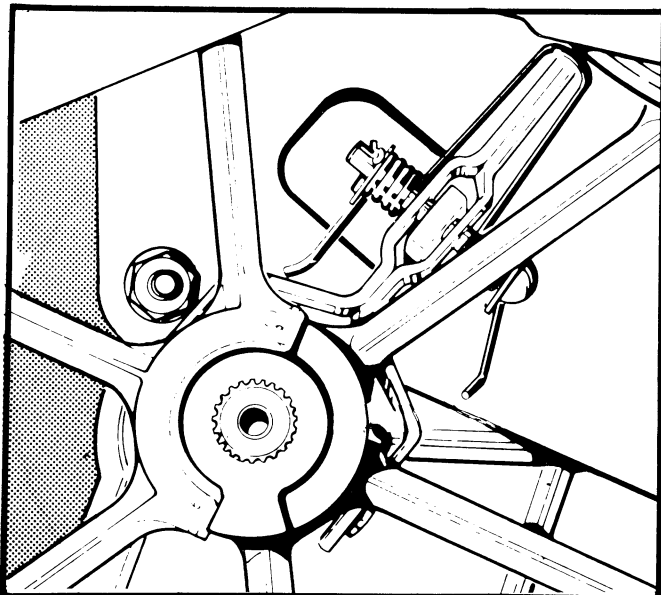

Figure 126
1. Remove cap screw, lock washer, and the flat washer at the top of the drive pinion, see *Figure 126*, lift stop off of the pinion shaft.